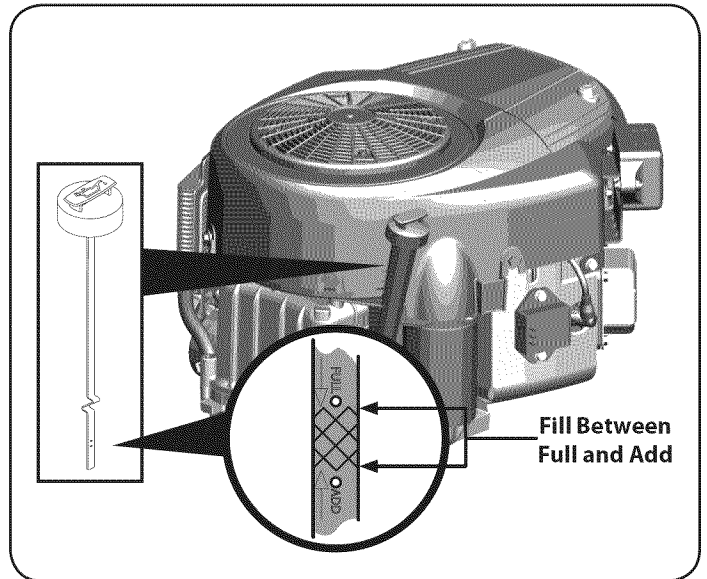

Figure 9
2. Remove the oil filler cap/dipstick and wipe the dipstick clean. See Figure 9.